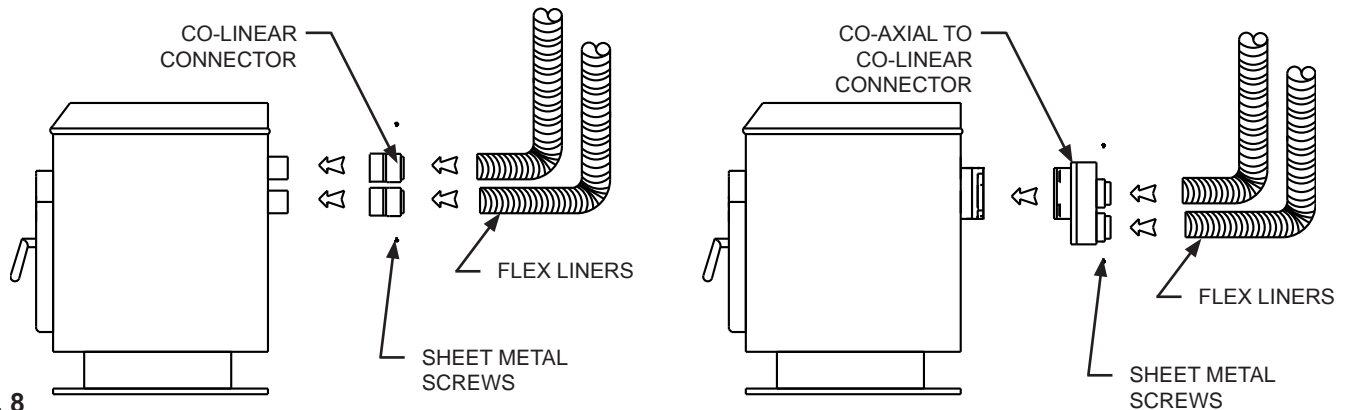

FIG. 8
**Step 9.** Depending upon the type of connection that your appliance has, it will require either the Co-Linear Flex Connectors or a Co-Axial to Co-linear Connector (See FIG. 8).